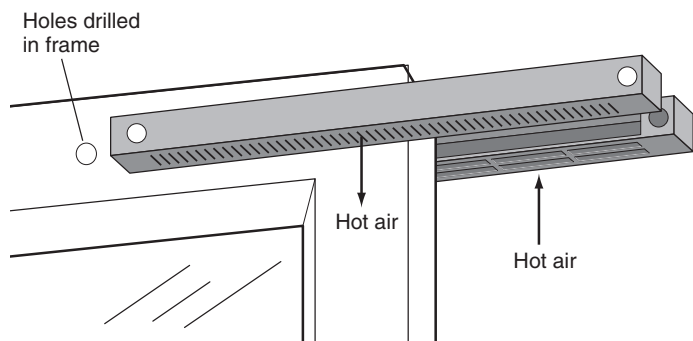

Figure 2.1 A trickle vent before installation at the top of a window.
- ▶ Install trickle vents in windows (Figure 2.1). This is not a difficult operation. The vents come in two halves for inside and outside the window. Several holes are drilled through the top of the window head to allow the passage of air into and out of the room. Flaps are fitted so the vents can be closed, and insect grills keep all the creepy crawlies on the outside! Trickle vents can be bought from any double-glazing merchant.